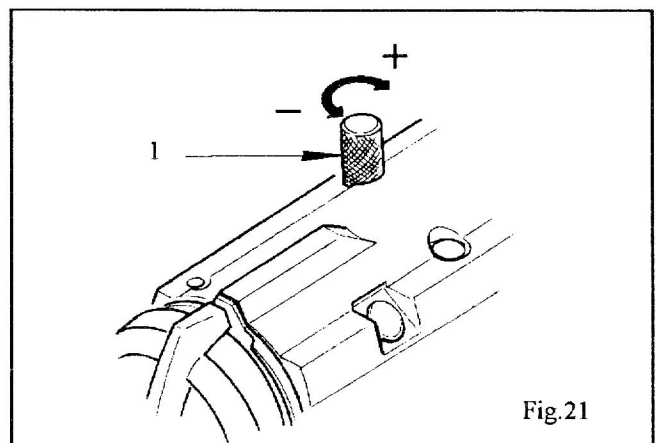

Fig. 21
To regulate the presser foot pressure, turn knurled thumb screw (1), Fig. 21, toward left or right as required.